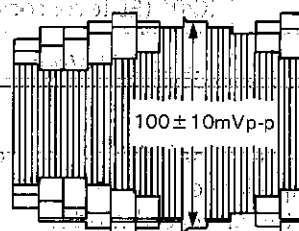

Figure 2-9.
4. Adjust R3304 (recording FM control) so that the sync tip be $100 \pm 10\text{mVp-p}$ as shown in Fig.2-9.